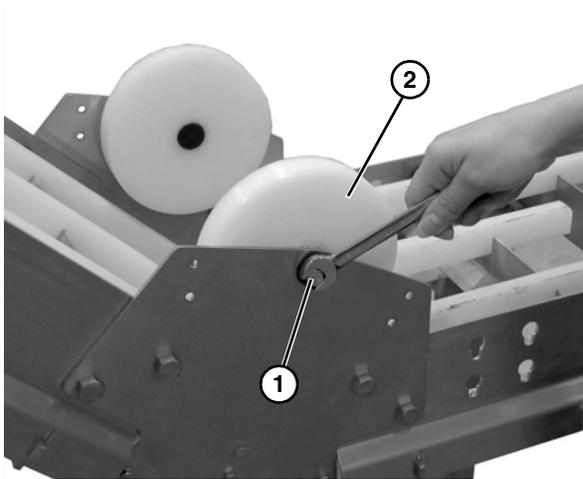

Figure 57
3. Remove the cap screw (**Figure 57, item 1**) and the hold down roller (**Figure 57, item 2**). Repeat on opposite side of the conveyor.